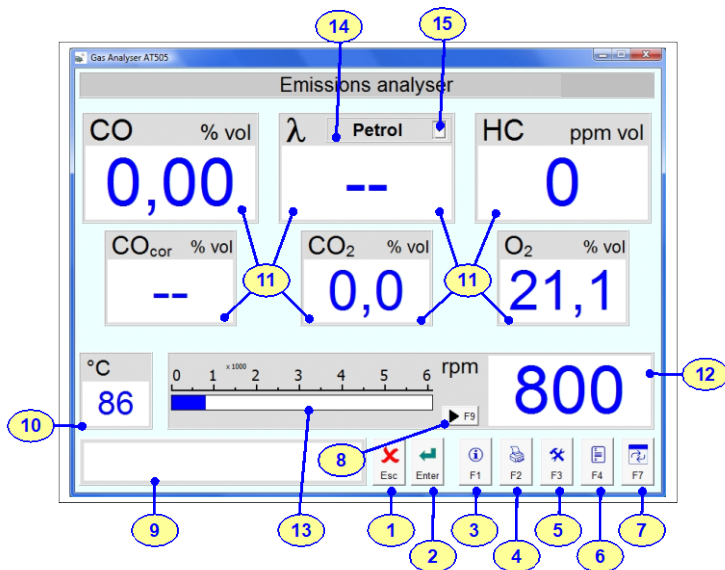

Fig. 45 – Initial Gas Analyser Software screen description (Multi-Diag Scope is not available)
The reset can be carried out anytime by switching to setup mode by pressing **F3** (Pos.5 - Fig. 45) and then by pressing the button in Pos.1 - Fig. 46.
#### Note to Button 2 - Fig. 45 (ENTER Button):
Here you can change the setting of the Speed and Temperature Sensor, fuel type and several other features of the program. You can get to the setup mode by clicking on the button **F3** (Pos.5 - Fig. 45).
- In case of implausible speed readings try to resynchronise the sensor by pressing the **F9** key (position 8 in Fig. 45).
The measurement is performed by reading the values from the electronic control unit (ECU) of the vehicle. The communication with the vehicle can be started or ended by pressing the **F9 button** (pos.8 - Fig. 45).